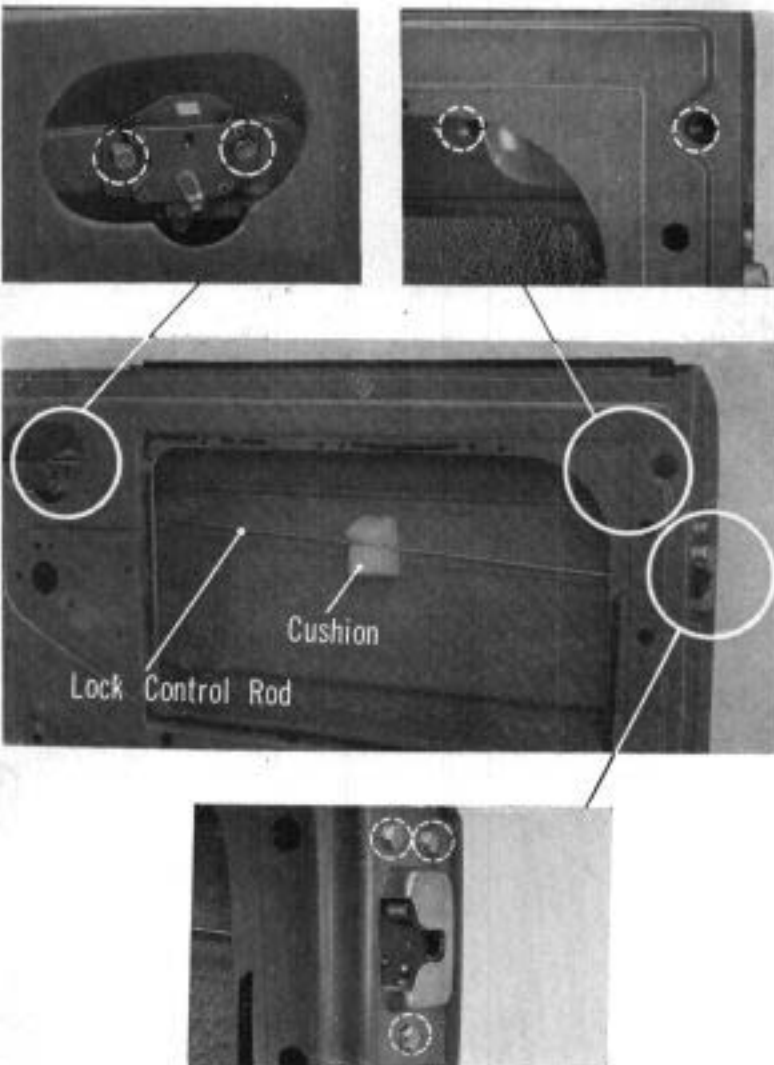

Fig. 18E-4
3. There are two types of regulator. (Fig. 18E-5 and Fig. 18E-6)